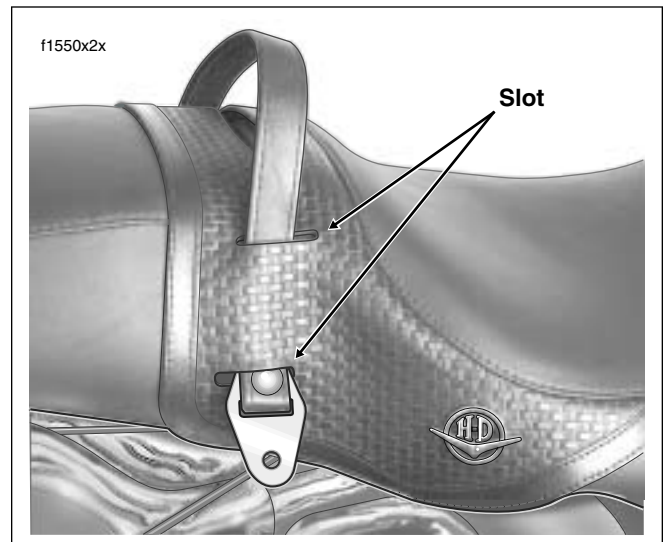

Figure 2-131. Route Passenger Seat Strap Through Slots in Seat - FLHRC
3. Using slots in seat, carefully pull passenger seat strap from seat. See Figure 2-131.
4. Using slots in seat, route free end of passenger seat strap to right side of motorcycle. See Figure 2-131.